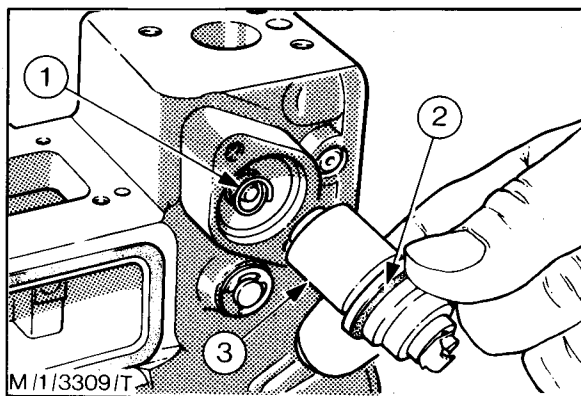

Fig. 34 - Removing the Excess Fuel Solenoid (Dover)
32. Dover pumps: Undo the solenoid retaining collar bolts and remove the collar. Withdraw the solenoid from the housing and remove the spring from the shaft. Discard the 'O' ring fitted to the solenoid (Fig. 34).